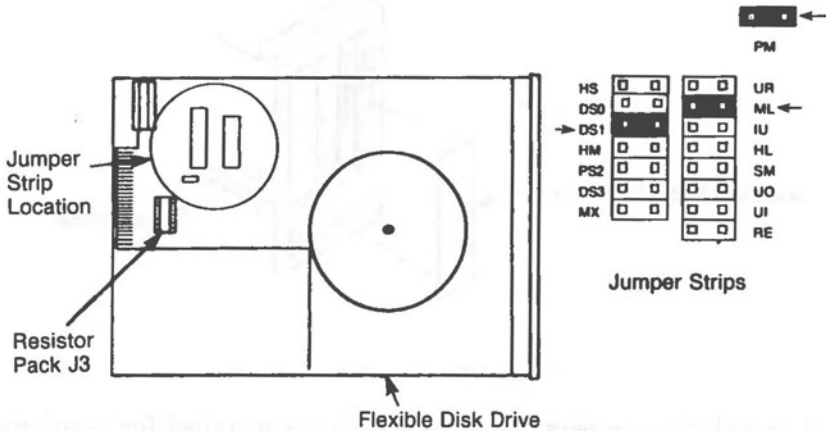

Figure 3-32 Jumper and Resistor Pack Locations
4. Install the jumpers. Jumpers are always installed for positions PM and ML (see Figure 3-32). You must position the jumper to designate the address location of the drive in the system: DS0 (Drive A), or DS1 (Drive B).